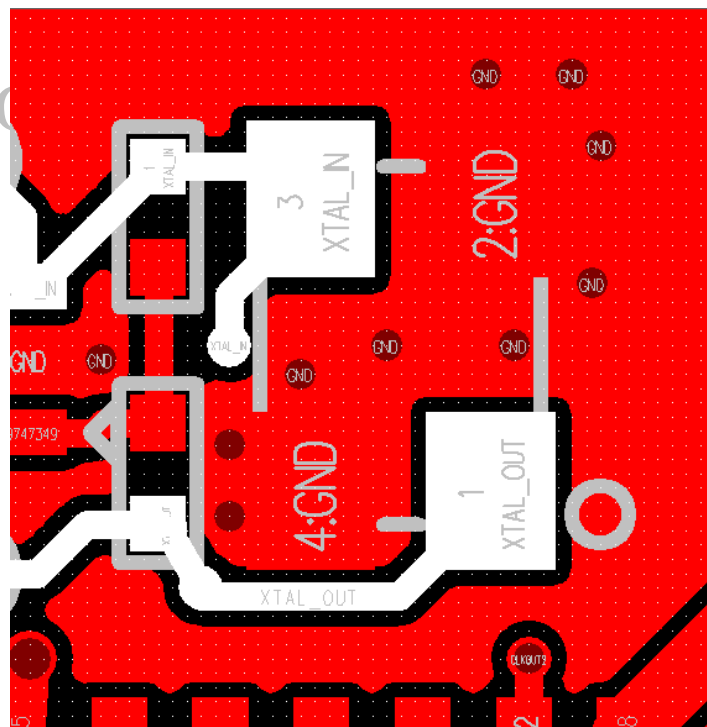

Figure 23-12
- Keep the complete GND reference plane under the Crystal, avoiding other signal traces, and having efficient GND vias in the crystal pins, shown as Figure 23-12.